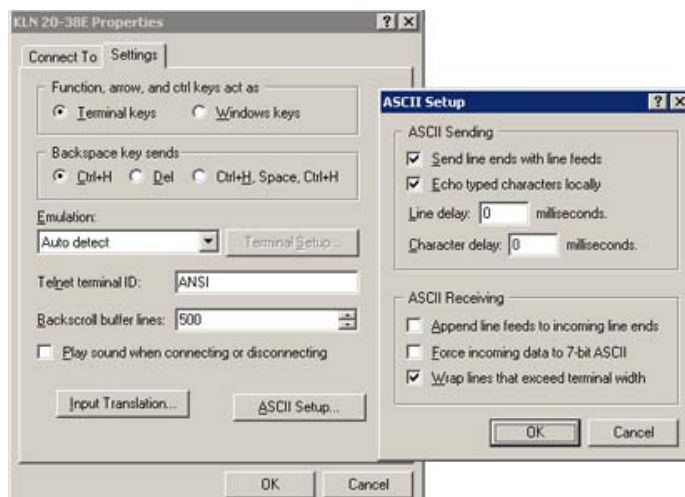

FIGURE 3-16. HYPER TERMINAL ASCII SETUP
- b. Click the Settings tab, then click ASCII setup (see Figure 3-16).